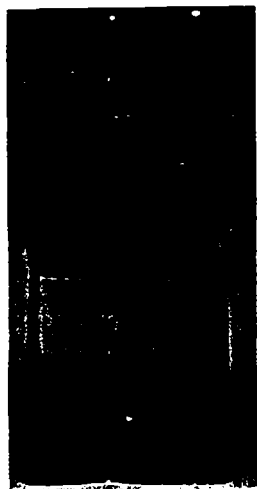

Fig. 82-5. No-Go Gage Does Not Fit
2. Try the no-go end of the gage in the base bottom. The gage should *not* fit. See Fig. 82-5.